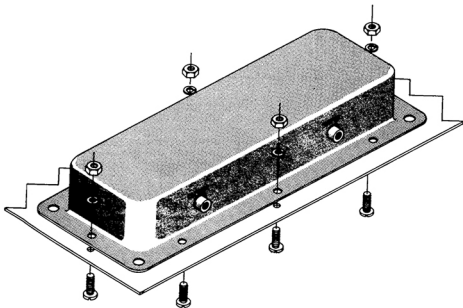

Figure 7 - Fasten reverb spring in place with #8 hardware
- ( ) Using the four 8-32 X  $\frac{1}{2}$  inch machine screws, four 8-32 nuts and four #8 lockwashers provided mount the reverb spring as shown in figure 7.